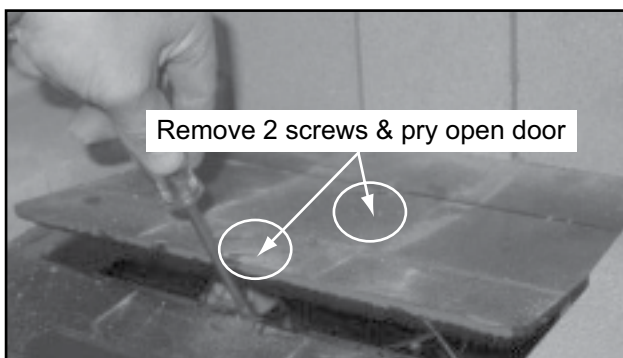

Figure 35.2
5. Remove 2 Phillips head screws and pry open access door in the bottom of the fireplace with a flat head screwdriver. Figure 35.2.